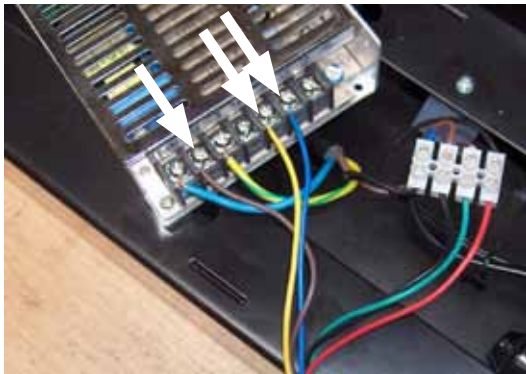

Fig. 4
7. Disconnect the 6 small wires of the defect control panel one by one, every time making sure to connect the wires of the new control panel to the same terminal (Fig. 4)